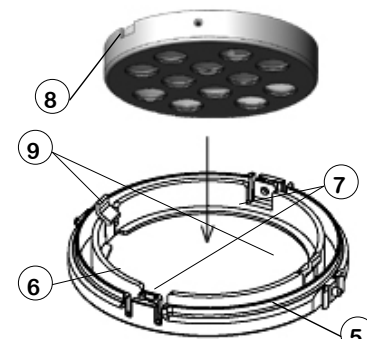

Fig.1
- Separate the inner ring (6) from external ring (5) pushing toward the center near the coupling (7).
- Fix the LED plate inside the inner ring (6) inserting the edge (8) into the tabs (9). (Fig.1);